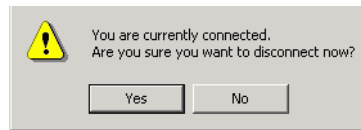

Figure 12: Disconnect Now dialog box
11. Choose **File > Exit** close the HyperTerminal application. A message box displays (Figure 12).